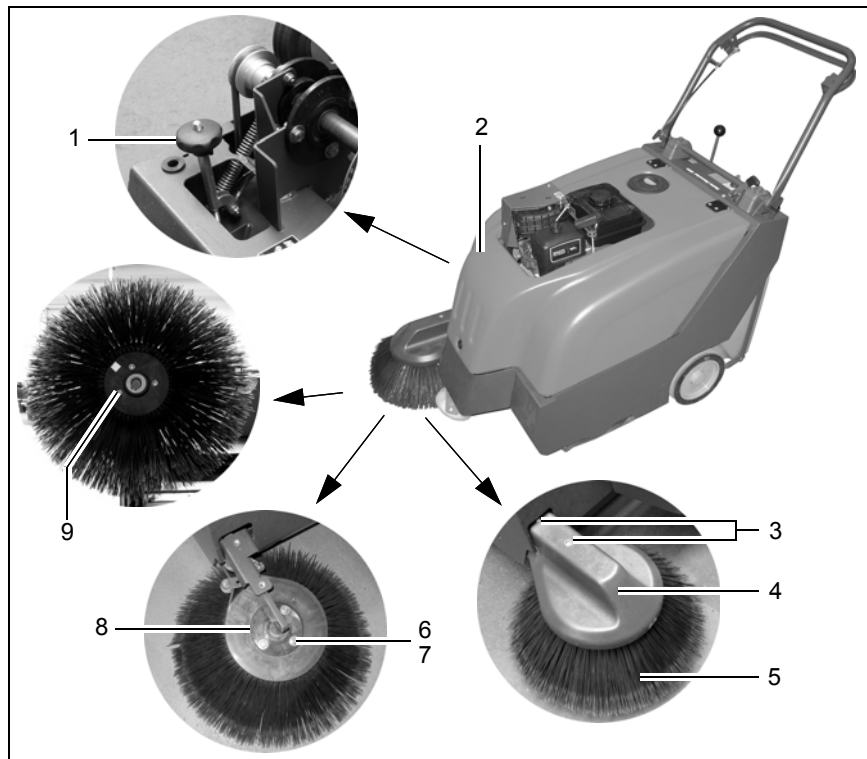

Fig. 18
1. Unlock the hood (Fig. 18/2) using a square wrench and open the hood (Fig. 18/2).
Ensure the engine has stopped before opening the hood (Fig. 18/2). Risk of injury through belt drive and rotating fan!
2. Turn the side brush control knob (Fig. 18/1) to adjust the height of the side brush.
3. Close the hood (Fig. 18/2) so that it audibly locks.
Check the side brush (Fig. 18/5) weekly and change in the case of wear.
2. Remove the screws (Fig. 18/3) from the plastic housing (Fig. 18/4) and remove the plastic housing (Fig. 18/4).
3. Remove the hexagon head bolts (Fig. 18/6), the washers (Fig. 18/7) and hexagon nuts (Fig. 18/9).
4. Pull the old side brush (Fig. 18/5) from the side brush holder (Fig. 18/8).
5. Install the new side brush (Fig. 18/5) on the side brush holder (Fig. 18/8).
6. Fix the side brush (Fig. 18/5) with the hexagon head bolts (Fig. 18/6), washers (Fig. 18/7) and hexagon nuts (Fig. 18/9) to the side brush holder (Fig. 18/8).
7. Assemble the plastic housing (Fig. 18/4) and fix it in place with the screws (Fig. 18/3).